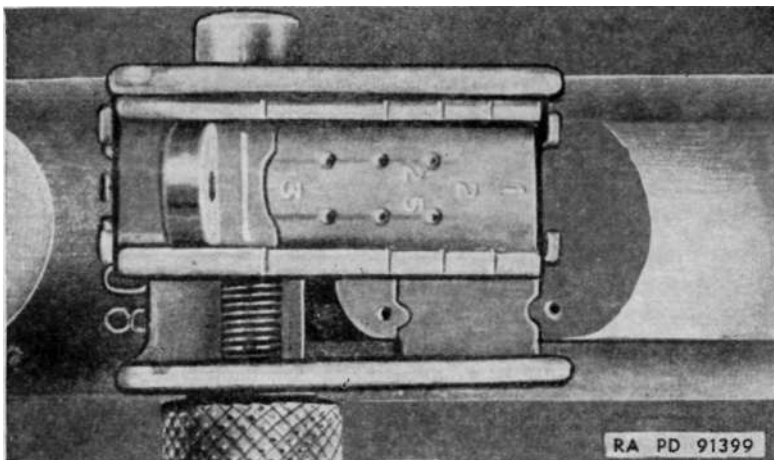

Figure 40. Rear sight showing staking.
(1) When staking machine type sight, have fixture firmly against forward edge of sight base wings.
(2) When staking stamped type sight, have center leg of fixture firmly against windage screw.
m. Place staking punch in hole in fixture and rap lightly with hammer, holding punch to rear to be sure fixture is in proper position. If points of staking are not directly opposite indents, perform staking operation as outlined in step (2) below.
*Note.* Points of staking are indicated by notches or indents on sight base dovetail. Stake only adjacent these notches. Metal should flow into indents in sight dovetail. (See fig. 40.)